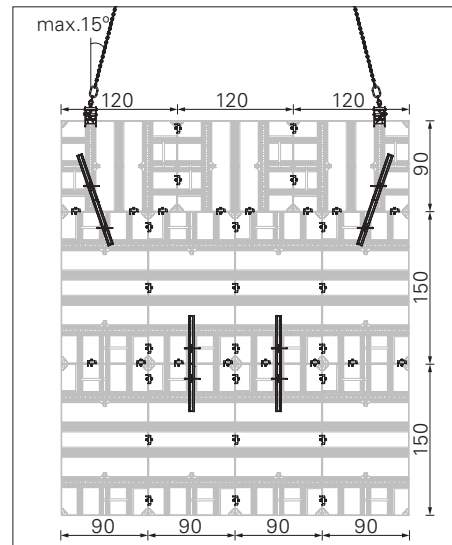

Fig. 2
– Fig. 2 (3.6 m width x 3.9 m height)
- When the top most panel is horizontal, the Crane Hook HSA is to be connected as shown in Fig 2.